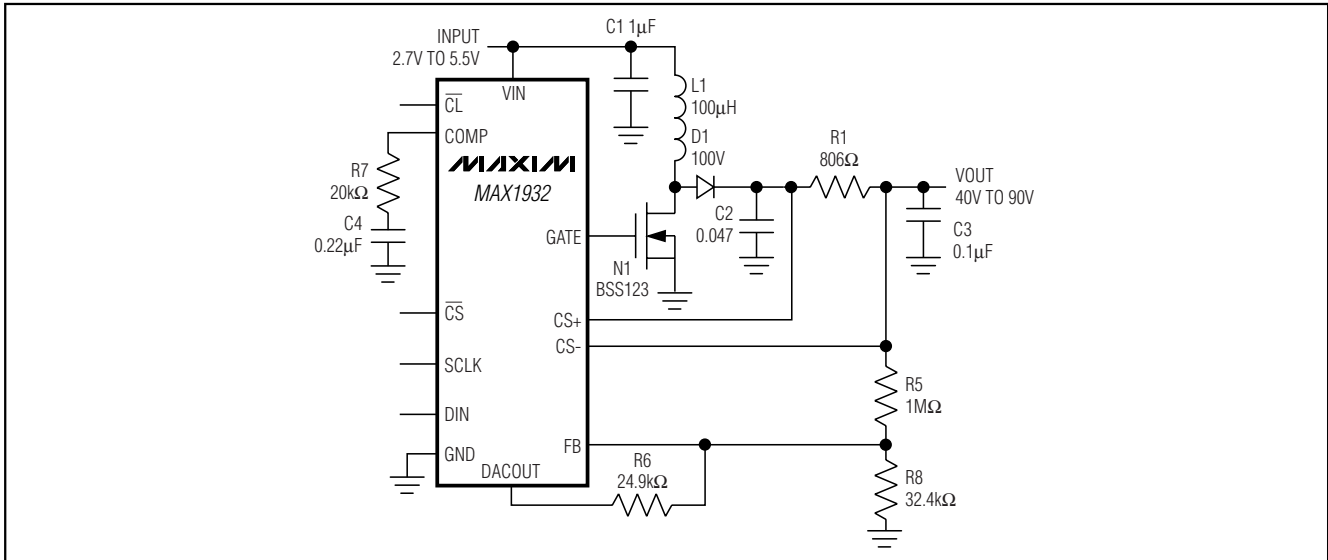
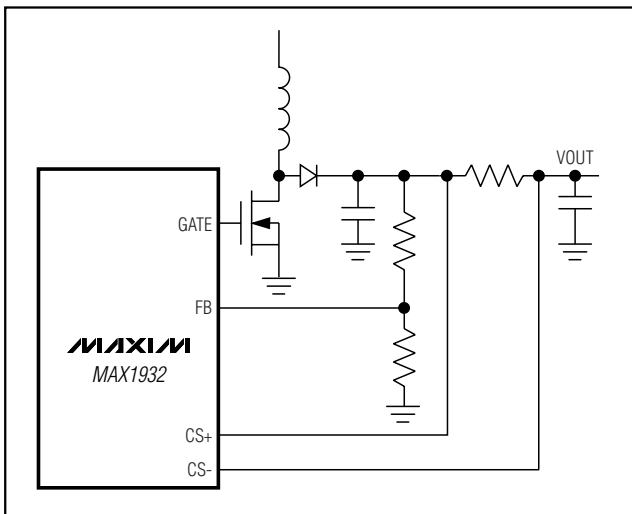

Figure 2. Typical Operating Circuit
Figure 3. Taking Feedback Ahead of Output Filter
The MAX1932 uses an external resistor at CS+ and CS- to sense the output current (see Figure 2). The typical current-limit threshold is 2V.  $\overline{\text{CL}}$  is designed to help find the optimum APD bias point by going low to indicate when the APD reaches avalanche and that current limit has been activated. To minimize noise,  $\overline{\text{CL}}$  only changes state on an internal oscillator edge.
An internal digital-to-analog converter can be used to control the output voltage of the DC-DC converter (Figure 2). The DAC output is changed through an SPI™ serial interface using an 8-bit control byte. On power-up, the DAC defaults to FF hex (1.25V), which corresponds to a minimum boost converter output voltage.
Feedback can be taken from in front of, or after, the current-limit sense resistor. The current-limit sense resistor forms a lowpass filter with the output capacitor. Taking feedback after the current-limit sense resistor (see Figure 2), optimizes the output voltage accuracy, but requires overcompensation, which slows down the control loop response. For faster response, the feedback can be taken from in front of the current-sense resistor (see Figure 3). This configuration however, makes the output voltage more sensitive to load variation and degrades output accuracy by an amount equal to the load current times the current-sense resistor value.
Many biasing applications require an adjustable output voltage, which is easily obtained using the MAX1932's DAC output (Figure 2).
Adjust the output voltage by connecting a voltage-divider from the output ( $V_{\text{OUT}}$ ) to FB (Figure 2 with R6 omitted). Select R8 between 10kΩ to 50kΩ. Calculate R5 with the following equation:
**Table 1. Compensation Components for Typical Circuits (Figure 2)**